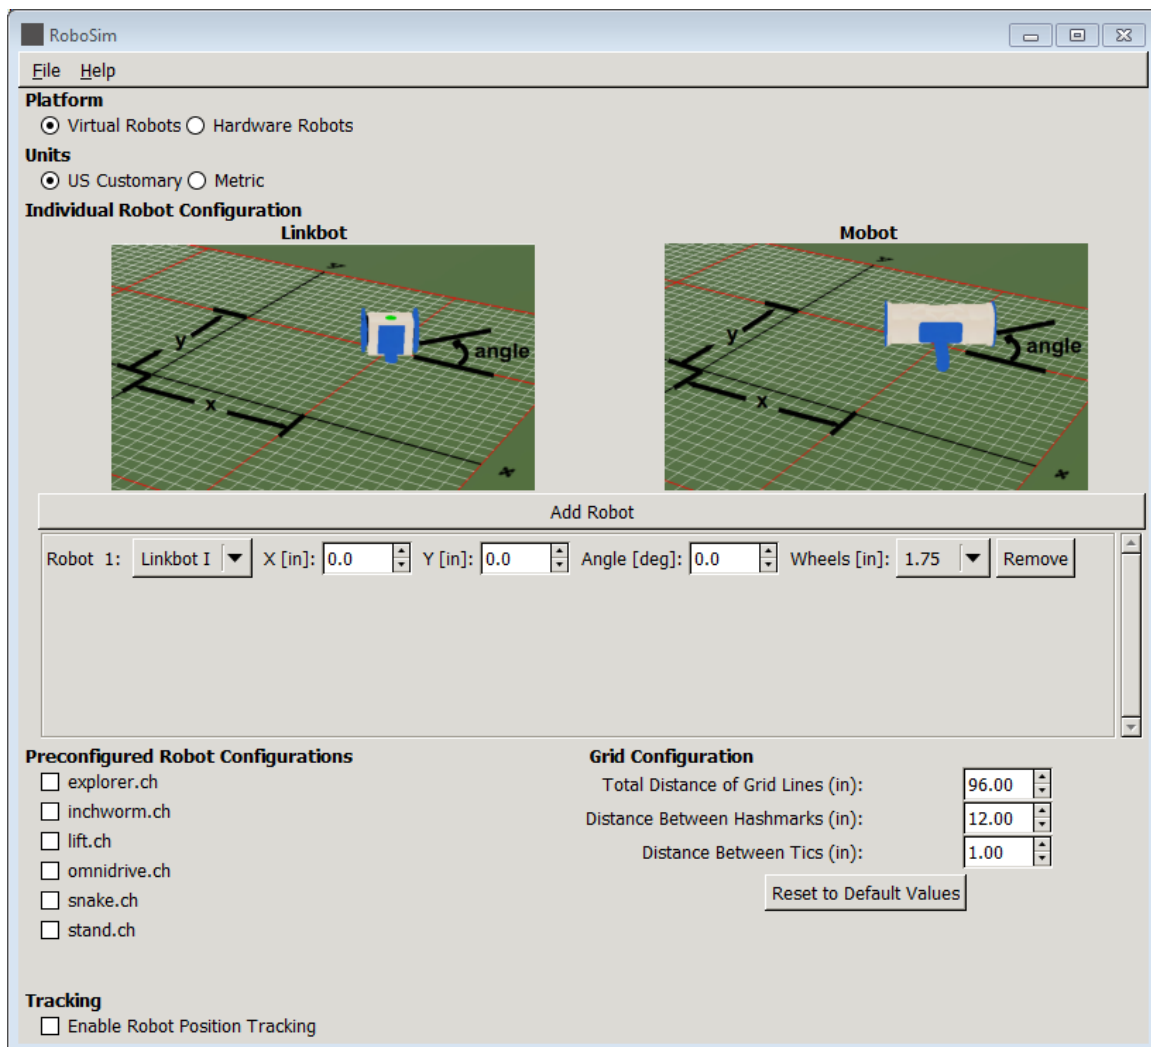

Figure 1: The RoboSim GUI.
RoboSim can be conveniently launched by double clicking its icon  on the desktop. The RoboSim graphical user interface (GUI), shown in Figure 1, allows the user to change between hardware and virtual robots when a Ch robot program is executed. There is no save button within the GUI, all changes made are automatically saved.
**Tracking** where robots have been can be enabled by selecting the check box 'Enable Robot Position Tracking', as shown in Figure 1. When the tracking is enabled, lines following the robot trajectories will be drawn for each robot. Mobot tracking lines will be in a green color and Linkbot tracking lines will be in the color matching the Linkbot LED.